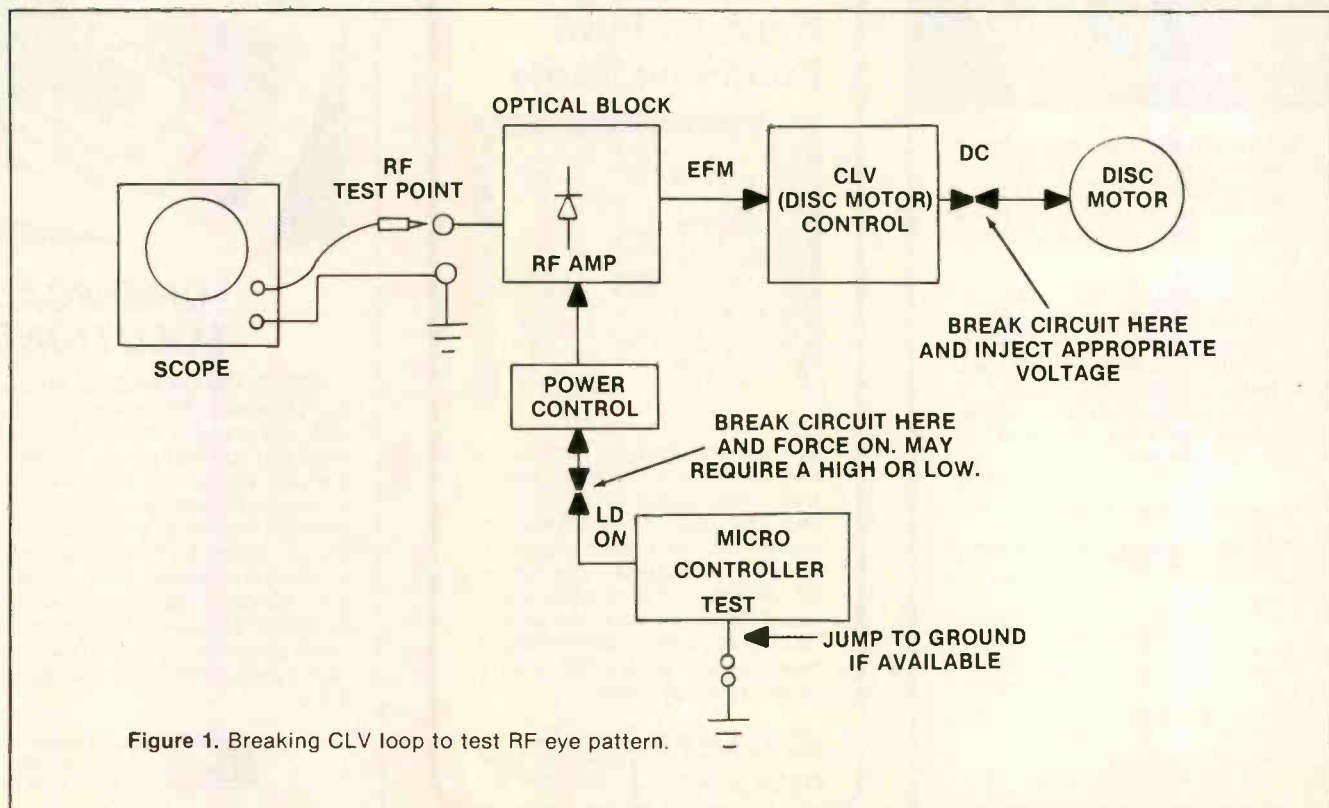

Figure 1. Breaking CLV loop to test RF eye pattern.
It might have been possible to create a digit for every number, but that would have been cumbersome in the extreme, and would have made calculation exceedingly difficult. Instead, it was decided to use only nine digits, then when it was necessary to represent ten of whatever was being counted, the digit would be moved one place to the left to show that the 1 represented one *group of ten* rather than simply one (see Figure 1). Presumably, it was decided to do this at the number ten because humans have ten fingers. In forming the decimal number ten, the zero is
**Figure 1.** Decimal numbers are formed as shown here. Each individual digit represents a quantity. To form a number ten, we use positional notation (shift the 1 digit one place to the left) to show that the 1 represents a group of ten rather than one unit. The 0 in the number 10 shows that the 1 has been shifted. To form larger numbers, we use 11 as one group of ten plus one, 12 as one group of ten plus two, etc.
Back to the original problem now; the CLV motor is dead and you need to check the laser. Most of the time, you're just going to have to get in and rewire a few circuits to do it. Take a look at Figure 1. Many CLV motors are of the brushless, slotless type, which among other things, means that speed control is probably effected by changing the bias on a Hall-effect device. Assuming the power supply to the motor is OK, you can disconnect the speed control input from the servo circuitry and substitute a variable external power supply. Bias voltages are usually in a 0Vdc to 2Vdc range, and quite often negative. Be sure to check the schematic for the unit you're fixing.